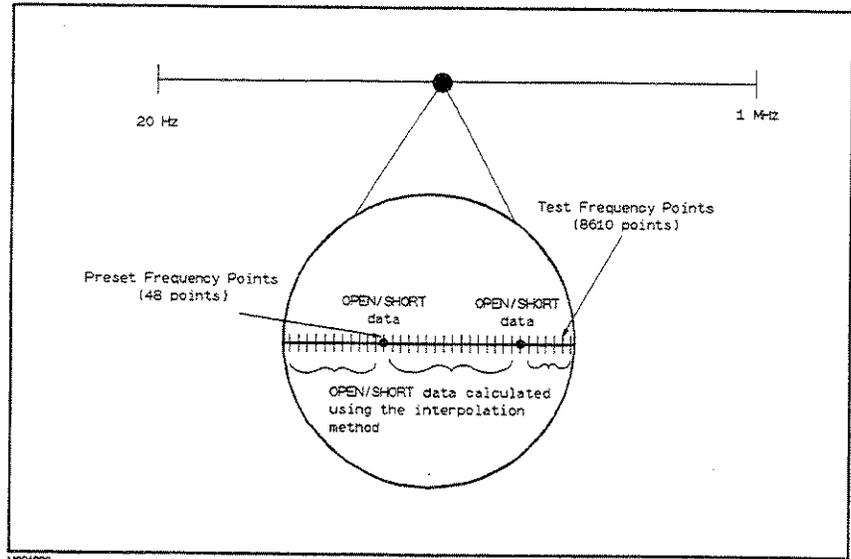

Figure 4-11. OPEN/SHORT Correction Using The Interpolation Method
- The OPEN correction data is taken at all 48 preset frequency points, independent of the test frequency you set. Except for those 48 frequency points, the OPEN correction data for each measurement point over the specified range is calculated using the interpolation method (Refer to Figure 4-11 in the next page). The following is a list of the 48 preset frequency points.
- The SHORT correction data is taken at all 48 preset frequency points independent of the test frequency(ies) you set, and the SHORT correction data for each measurement point other than those present frequency points are calculated using the interpolation method(Refer to Figure 4-11). All preset frequency points (48 frequency points) are as same as the preset frequencies for the OPEN correction using the interpolation method.